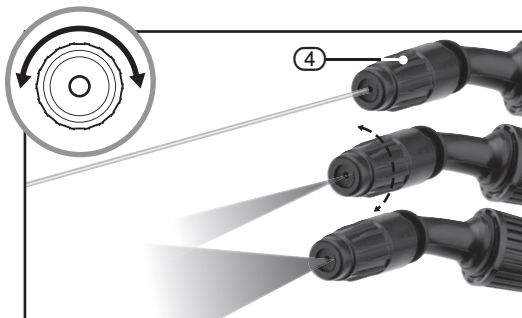

FIG. 13
9.6 VARIABLE SPRAY PATTERN – FIG. 13